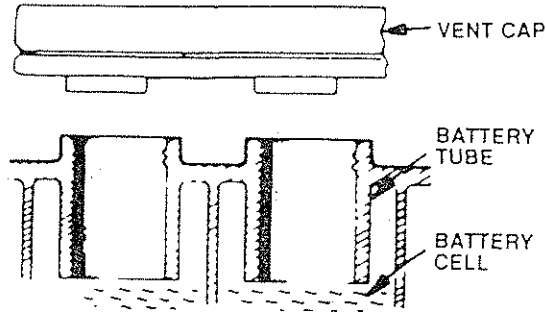

FIGURE 1
- a. Remove the tape from the battery cells. Fill each cell with acid. Add the acid until it reaches the bottom of the vent tube (Fig. 1). Do not add the acid beyond this level or additional acid can come out when the battery is charged.